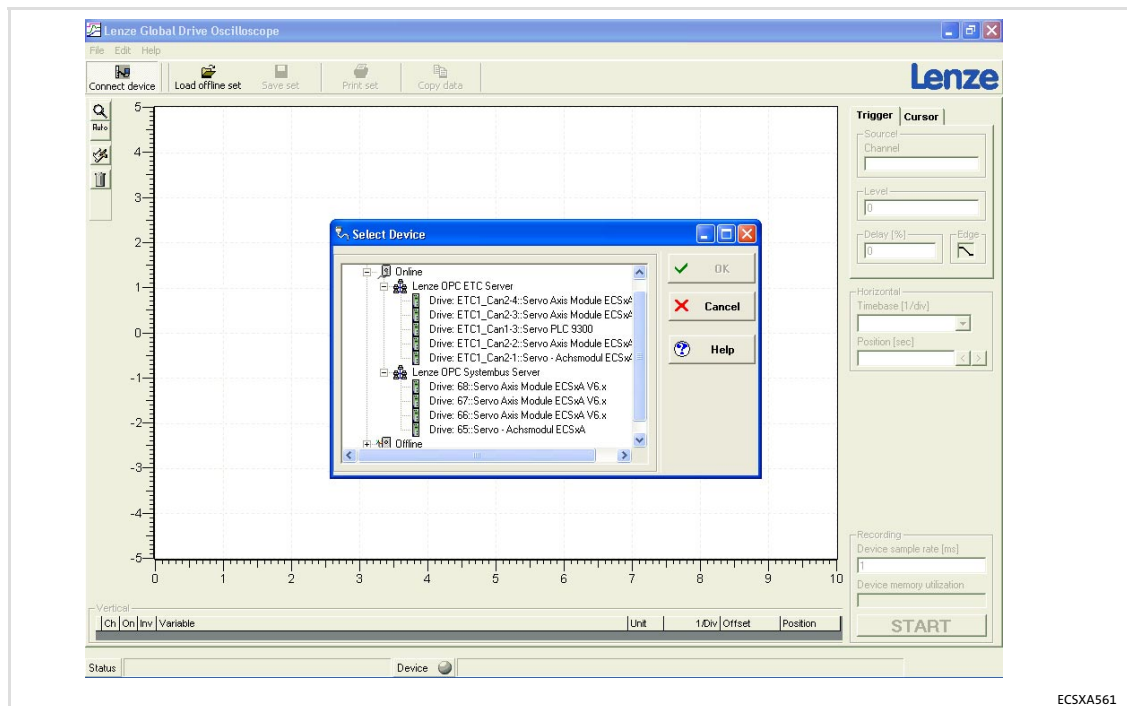

Fig.9-5 GDO view: Dialog "Select Device"
2. Supply the axis module with a control voltage of 24 V (55).
- The dialog "Select Device" opens (Fig.9-5).